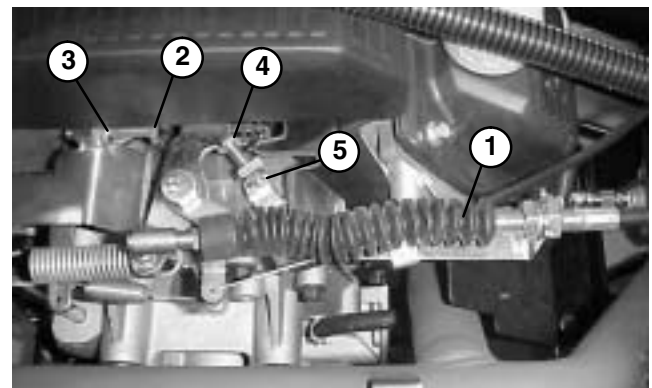

Figure 2
5. If high idle speed is incorrect, adjust high speed screw on control bracket (Fig. 2).
8. If low speed is incorrect, adjust low speed screw (Fig. 2).